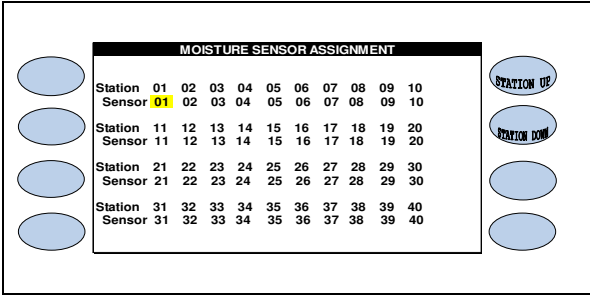

Figure 6
8.  Press the **SENSOR ASSIGNMENT** Menu key. This will take you to the **MOISTURE SENSOR ASSIGNMENT SCREEN** (Figure 6).